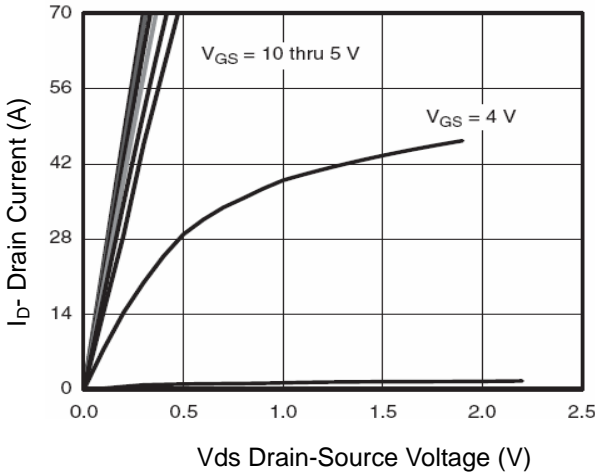

Figure 1 Output Characteristics
D. The static characteristics in Figures 1 to 6,12,14 are obtained using 80 μs pulses, duty cycle 0.5% max.